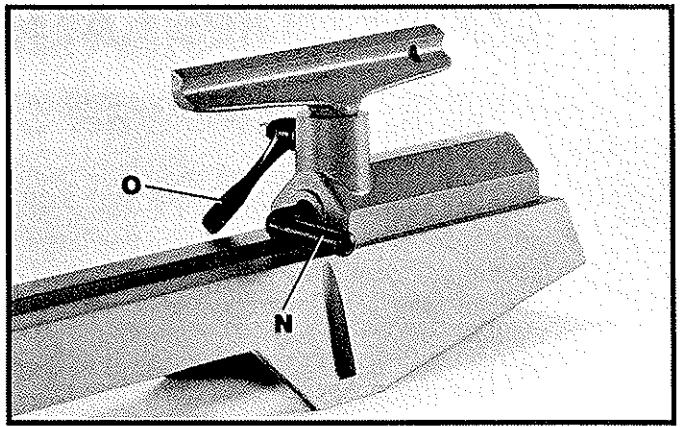

Fig. 8
7. Lift up tool rest base locking lever (N) Fig. 8, and loosen tool rest locking lever (O).